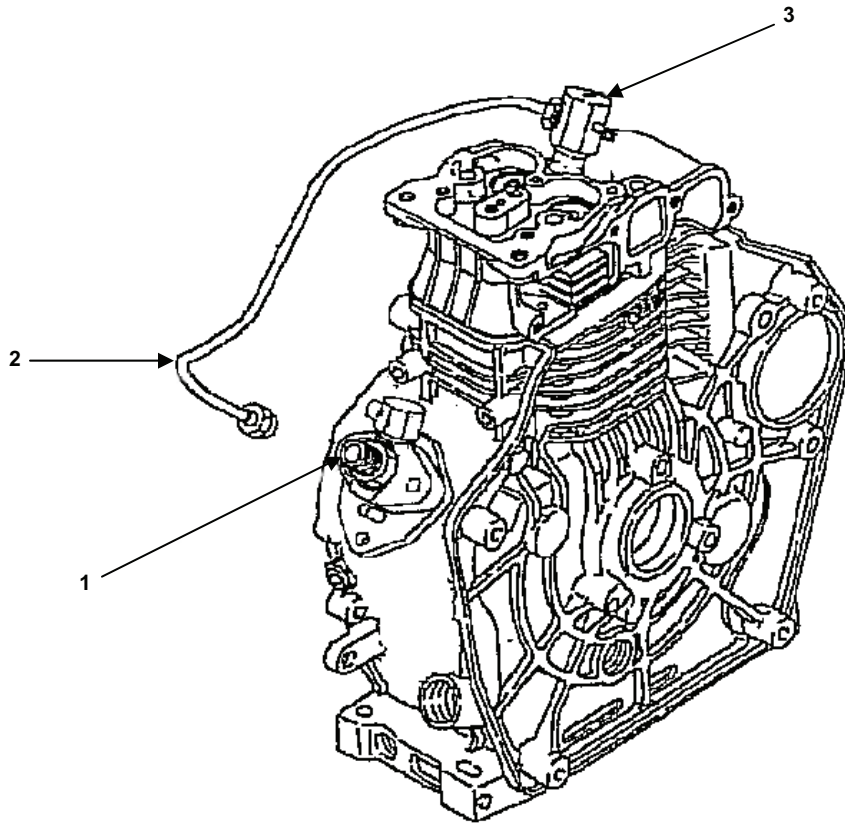

Figure 1. Diesel Engine.
| 1. Engine will not start | Inspect fuel pump. Remove the fuel outlet pipe (figure 1, item 2) from the fuel pump (figure 1, item 1). No need to remove the pipe on injector end (figure 1, item 3). Push down decompression lever and pull the starter rope, observe the fuel discharge from the pump. | If fuel is not ejected repair or replace.(WP 0126). |